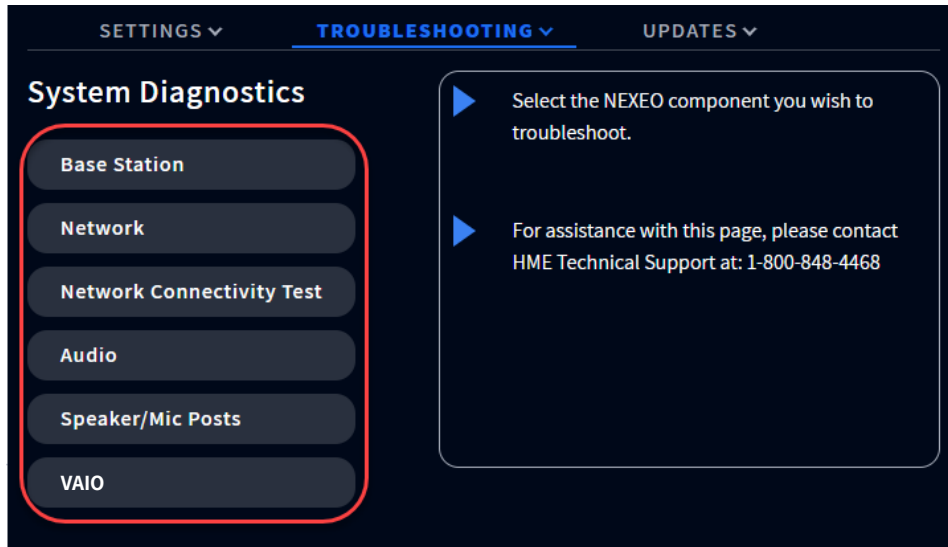

Fig. 15.2
**System Diagnostics continued:** Valuable feedback on the health of each component can be found by clicking on any of the component options listed under System Diagnostics in Fig. 15.2 (i.e., Base Station, Network, Audio, Speaker/Mic Posts, and AOT).